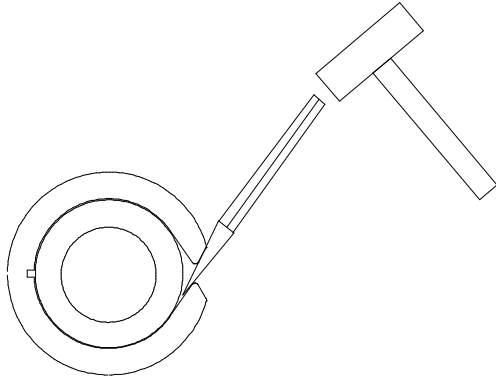

Fig. 7
4.2.2.4 Wear spacers are slotted to allow for in-place removal. Using a narrow chisel wedged between the stud and the spacer, as shown in Figure 7, wedge / pry the wear spacer until it fractures and is clear to be removed from the stud. Repeat for the remaining spacers in the set that is to be removed.